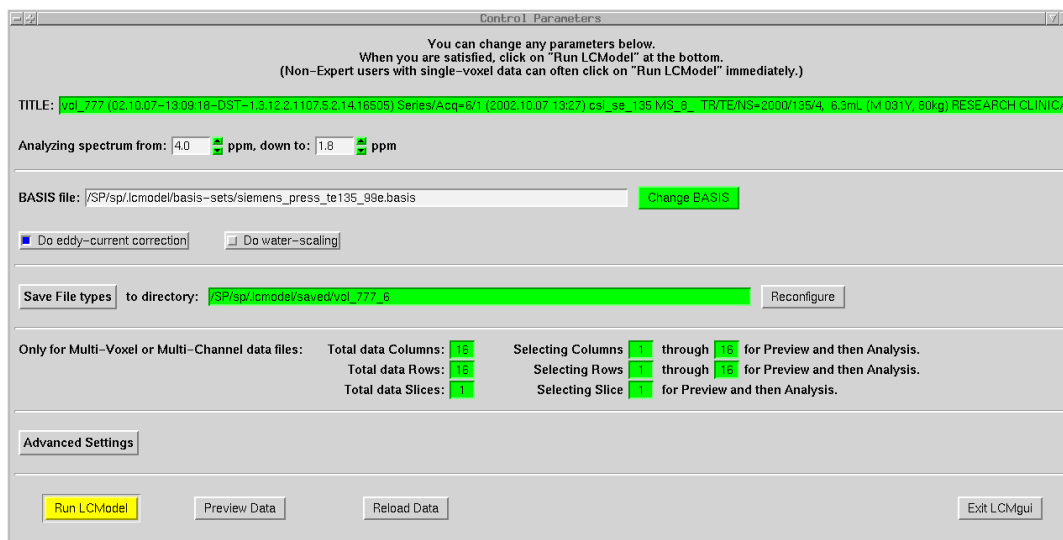

Figure 6.4: The Control Parameters Window
- Click on “Run LCMModel” (Fig 6.4 in Sec 6.4).
After you click the “OK” button in the File Selector, the second of the two most important windows, the “Control Parameters” window (Fig 6.4), appears. LCMgui remembers most of the settings from the previous session. Thus, Normal Users often can simply click the yellow “Run LCModel” button at the bottom to start the LCModel analysis. (Yellow is generally used to show you the usual path to take.)
In the second row in Fig 6.4, the entries next to “**Analyzing spectrum from:**” define the Analysis Window, the ppm-range over which the spectrum will be analyzed (Sec 3.4). You can change this range by clicking on the green up or down arrow next to the value. (Green usually indicates fields that you can click on or edit to make changes.)
In the third row in Fig 6.4, the entry next to **BASIS file:** shows the pathname of the .BASIS file containing the model spectra that will be used to analyze your data. If the .BASIS files are installed as specified in Sec 7.2.4, then LCMgui should automatically select the proper one, if it exists. Also LCMModel normally produces diagnostics if the .BASIS file does not match your data.
Users with Toshiba, Marconi/Picker data or GE Probe P-files can skip Sec 6.3.3 since eddy-current correction (ECC) is done automatically. Other users only have to set this as default the first time for future analyses. In the fourth row in Fig 6.4, a mouse-click switches the button for ECC between active (blue) and inactive (no ECC). (Blue usually indicates a button that is switched on.)
**TITLE:** This field at the top of Fig 6.4 will also appear at the top of the One-Page Output. You can edit this field, e.g., to insert comments on location or pathology.
There are several other useful files that can be output and archived by LCModel. Clicking on “Save File types” in Fig 6.4 produces a menu where you can select which types of output files will be archived. In addition to the .PS file (with the One-Page Output), the .TABLE file (with tables summarizing the results) should be selected.